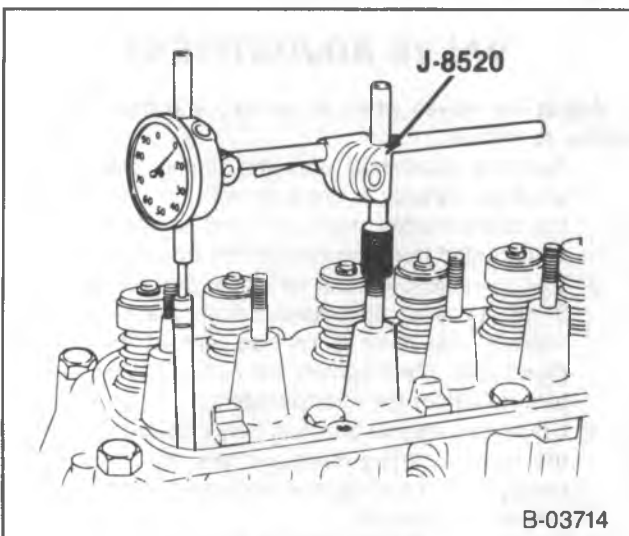

Figure 61—Measuring Camshaft Lobe Lift
2. Install a dial indicator, along with J-8520 (figure 61). Turn the crankshaft until the #2 exhaust valve opens and the timing mark on the vibration damper is aligned with the "0" mark on the timing marker.